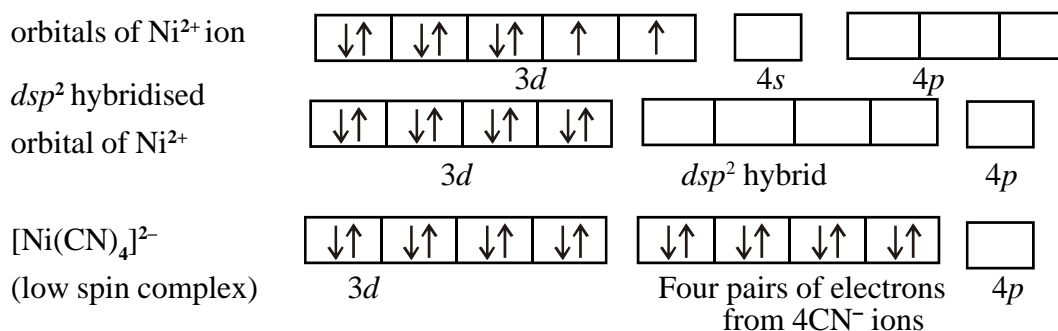

Fig 13.7 Formation of square planar $[\text{Ni}(\text{CN})_4]^{2-}$ complex involving dsp^2 hybridisation of Ni^{2+} ion orbitals
The Ni (II) ion has $3d^8$ outer electronic configuration. The 8 electrons are to be distributed in five d orbitals. According to Hund's rule, there are two unpaired electrons. The hybridisation scheme is as show below in diagram (Fig. 13.7).